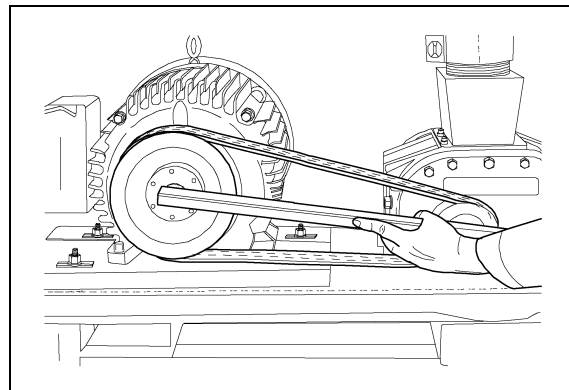

Figure 4I
4. Place the pulley and taper lock bushing onto the motor and align it with the blower pulley. (See Figure 4I). Install the bushing on the inside of the sheave toward the motor.